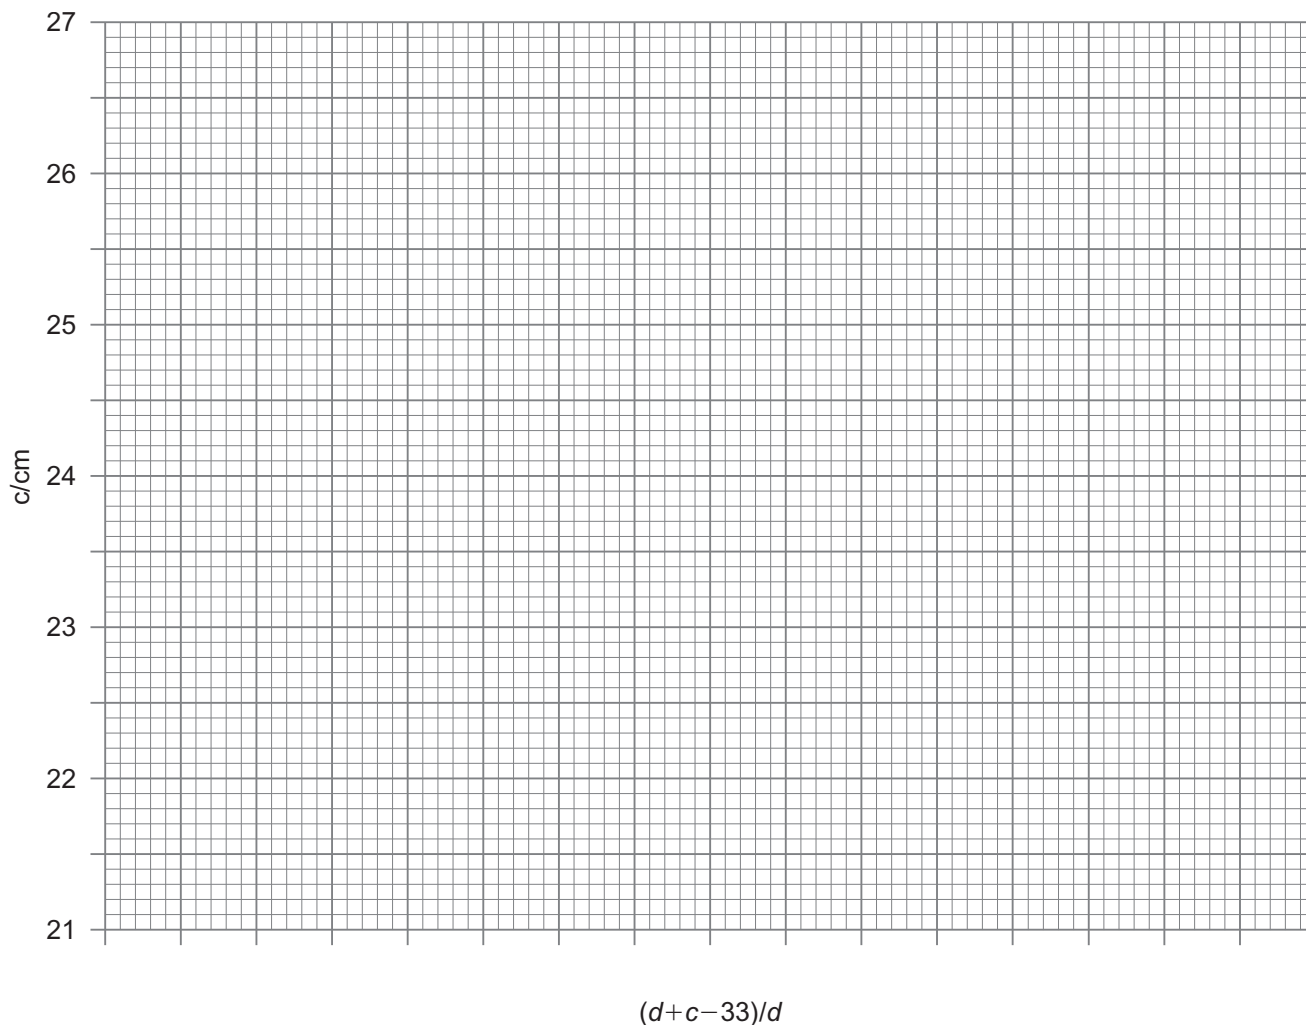

Fig. 1.3
- (iii) On the graph grid of **Fig. 1.3**, choose a suitable scale for the horizontal axis, plot the points and draw the best-fit line. [4]